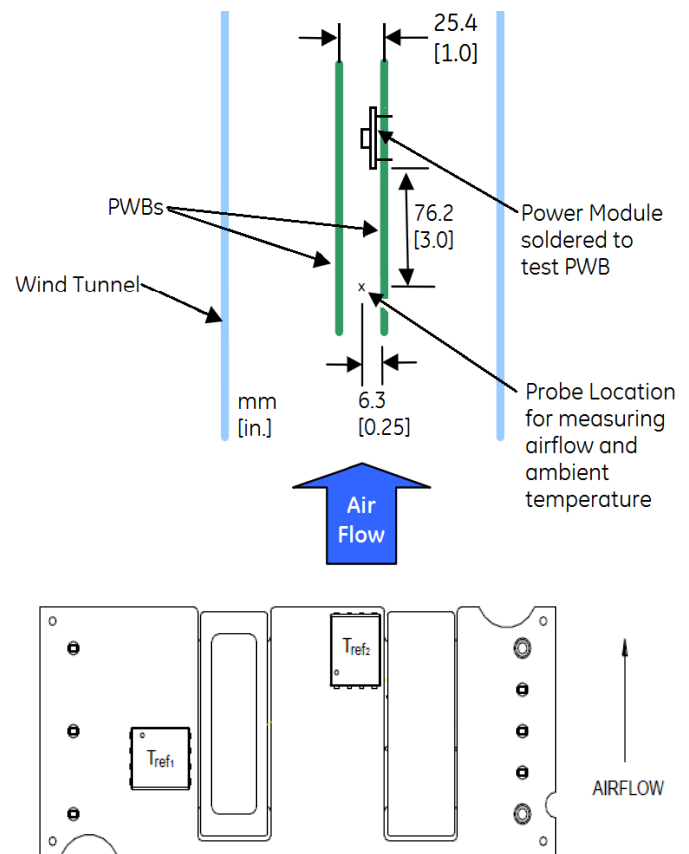

Figure 12. T_{ref} Temperature Measurement Locations for Open Frame Module.
To provide protection under certain fault conditions, the unit is equipped with a thermal shutdown circuit. The unit will shutdown if the thermal reference point, T_{ref} , exceeds 135°C (Figure 12, typical) but the thermal shutdown is not intended as a guarantee that the unit will survive temperatures beyond its rating. The module will Overtemperature Protection automatically restart upon cool-down to a safe temperature.
The thermal reference point, T_{ref1} and T_{ref2} used in the specifications for open frame module is shown in Figure 12. For reliable operation this temperature should not exceed 124°C and 121°C respectively.